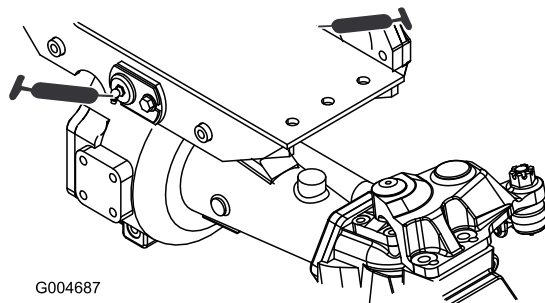

Figure 36
- Front and rear axle pivot bushings (2) (Figure 36)